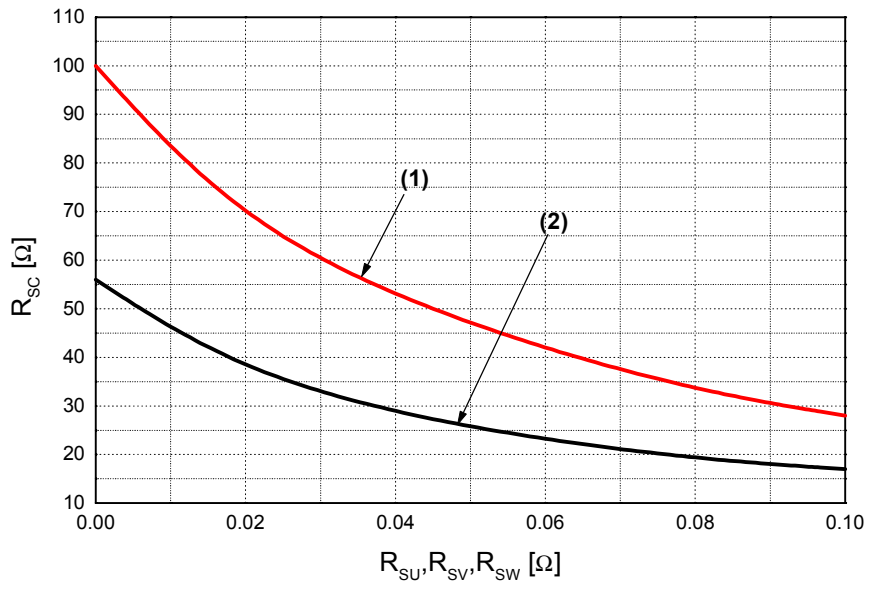

Fig. 6. R_{sc} Variation by change of Shunt Resistors (R_{su}, R_{sv}, R_{sw}) for Short-Circuit Protection
- Short-circuit current protection is functioning only at the low-sides. It would be recommended that the value of the external sensing resistor (R_{SC}) should be selected around 56 Ω in order to make the SC trip-level of about 22.5A at the shunt resistors (R_{SU}, R_{SV}, R_{SW}) of 0Ω. For the detailed information about the relationship between the external sensing resistor (R_{SC}) and the shunt resistors (R_{SU}, R_{SV}, R_{SW}), please see Fig. 6.